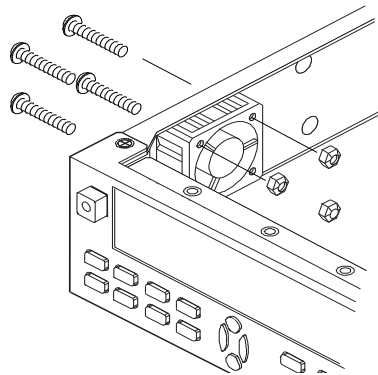

Figure 3-12. Cooling Fan Screws
- 5 Use a #1 Phillips screwdriver and a 1/4-inch wrench or spin tight to remove the four 4-40 x 1-inch panhead machine screws and 1/4-inch self-locking hex nuts that attach the cooling fan to the chassis (see Figure 3-12).